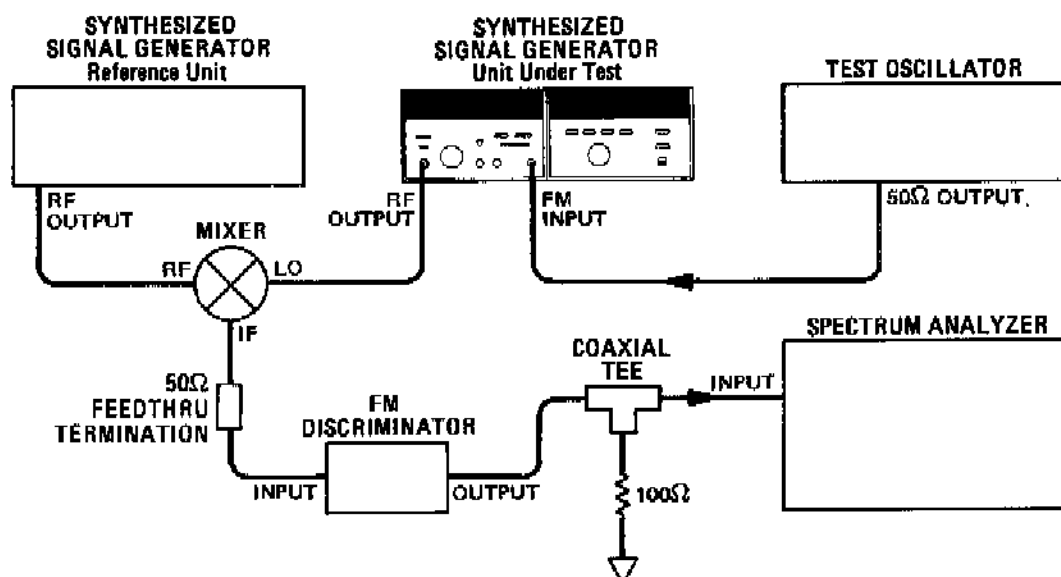

Figure 4-9. FM Distortion Test Setup
4. Connect the equipment as shown in Figure 4-9. Be sure that the Unit Under Test is connected to the mixer's LO port. Be sure the 1 MHz Low Pass filter is installed in the FM Discriminator.